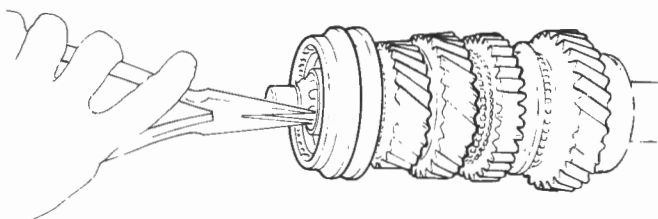

Fig. L-27
- 24 Remove snap ring from front of mainshaft. Fig. L-27.